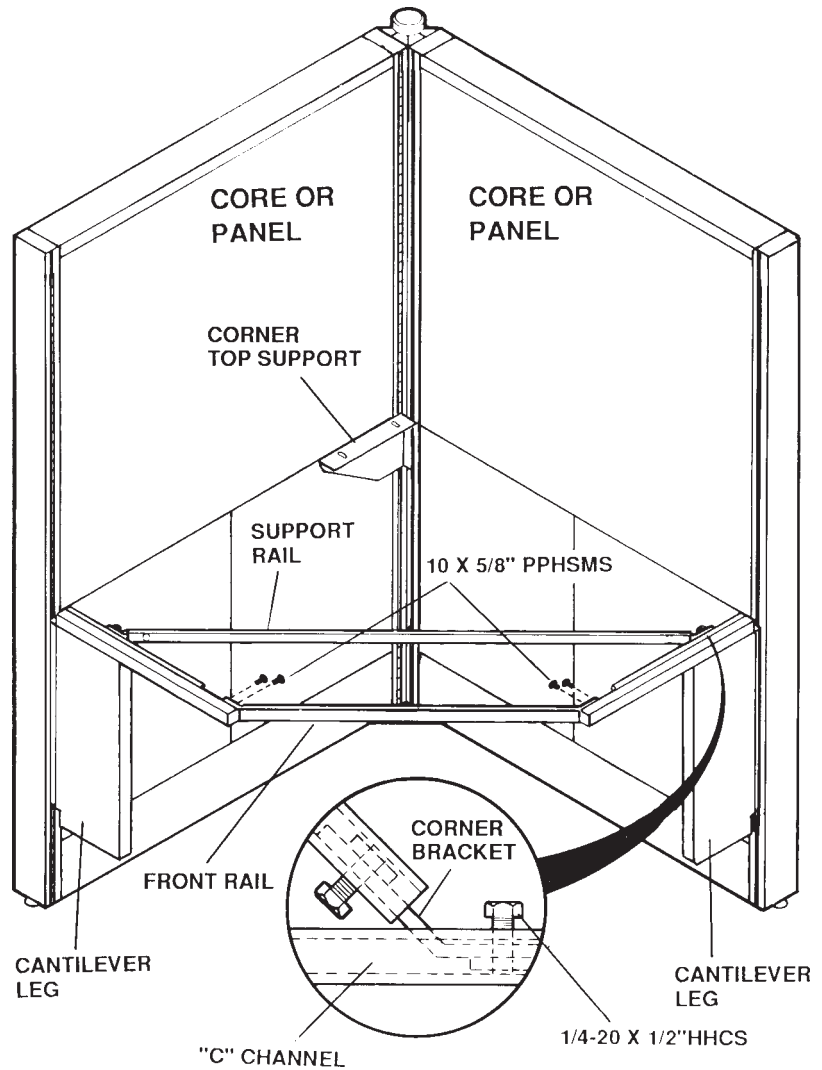

Figure 3
### Refer to Figure 3:
- See Figure 3 explosion.